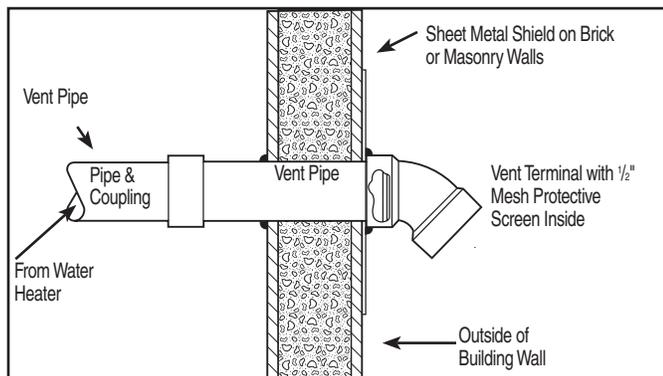

Figure 5 – Typical Horizontal Vent Installation
3. Do Not terminate vent pipe directly on brick or masonry surfaces. Use a rust-resistant sheet metal backing plate behind vent. (See Figure 5.)
5. Caulk all cracks, seams and joints within six (6) (1.83 m) feet of vent terminal.
HORIZONTAL VENT INSTALLATION – Once the vent terminal location has been determined, make a hole through the exterior wall to accommodate the vent pipe. Vent pipe must exit exterior wall horizontally only (See Figure 5).
Insert a small length of vent pipe through the wall and connect the coupling as shown in Figure 5. Connect terminal as shown to the vent pipe on the exterior of the building. Seal any opening around the vent pipe or fittings with mortar or silicone caulk as shown in Figure 5. Complete the rest of the vent pipe installation to the water heater's vent connector fitting on the blower outlet. If necessary support horizontal run as previously mentioned.